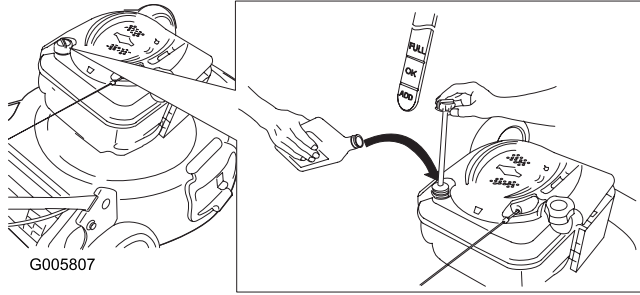

Figure 10
1. Remove the dipstick, wipe it clean, and fully install the dipstick (Figure 10).
2. Remove the dipstick and check the oil level (Figure 10). If the oil level is below the **Add** mark on the dipstick, **slowly** pour oil into the oil fill tube to raise the oil level to the **Full** mark on the dipstick. **Do not overfill.** (Max. fill: 20 oz. (0.59 l), type: SAE 30W detergent oil with an API service classification of SF, SG, SH, SJ, SL, or higher.)